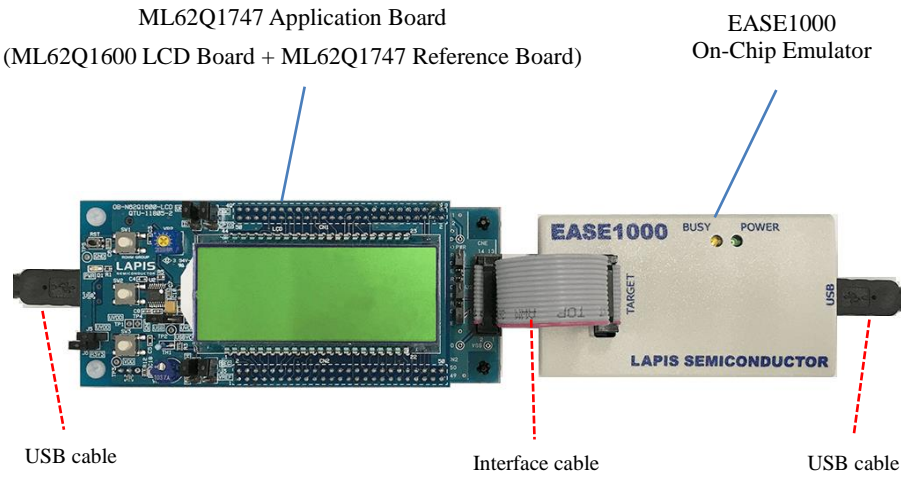

Figure 1 ML62Q1747 LCD Starter Kit hardware configuration
- 2-1. As shown in figure 1, connect the ML62Q1747 Application Board to the EASE1000 On-Chip Emulator (hereinafter "EASE1000").